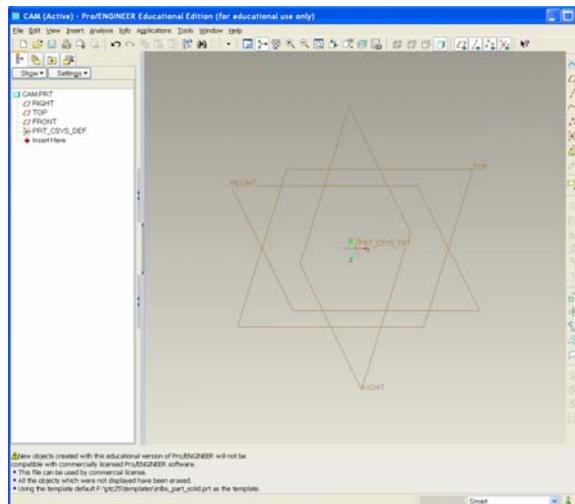

Figure 1.1 Start of the Part
- 4) Start of the part. The part contains some features already. The main graphics area shows 3 datum planes and a coordinate system as shown in Figure 1.1.